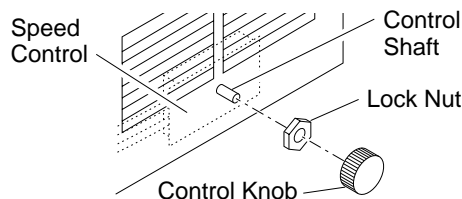

Figure 10 - Attaching Speed Control
5. Place speed control against inner wall of front panel, pushing the plastic control shaft forward through the opening (see Figure 10, page 9).
6. While supporting speed control, secure control shaft with lock nut by pushing and turning lock nut with pliers clockwise until it is tight against front panel. Place control knob provided on shaft (see Figure 10, page 9).